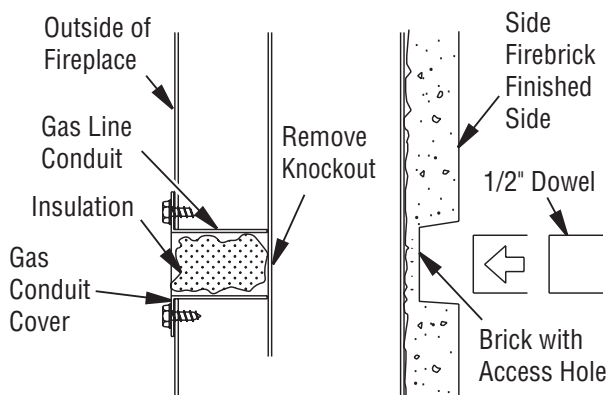

Figure 38 - Gas Line Access
1. Remove knockout indentation on refractory or firebrick wall located above refractory hearth floor. Knockout indentation must be firmly tapped with any solid object such as a 1/2" dowel until it is released. Remove fragmented portions of refractory (see Figure 38).